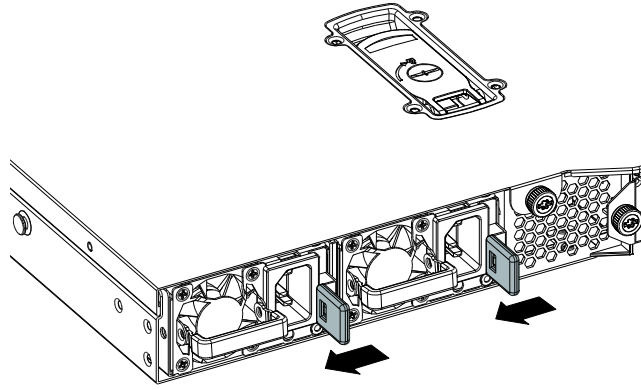

Figure 2-16 Press Lock Button
Step 3: As shown in figure 2-16, put the hard disk into the hard disk box, and fix it around four corners by the screw.